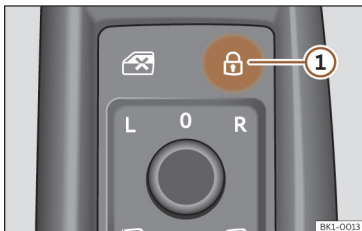

Fig. 69 On the driver's door: central locking button.
- Lock: press the  >>> **Fig. 69** button.
- Unlock: Press the  >>> **Fig. 69** button again.